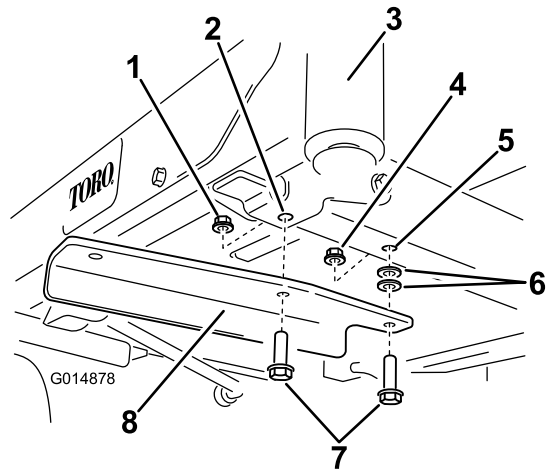

Figure 7
5. Install the left bracket to the under side of the frame using 2 bolts (3/8 x 1-1/4 inches), 2 washers and 2 locknuts (3/8 inch) as shown in Figure 7.